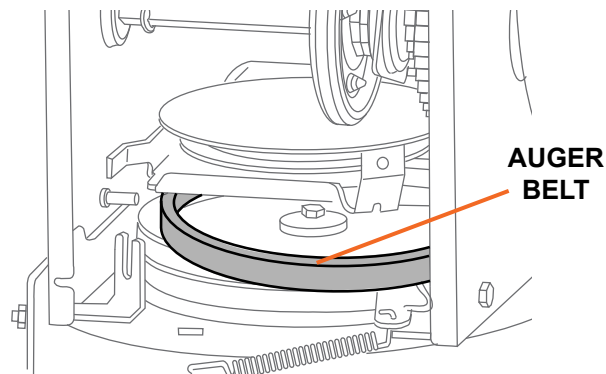

Figure 22
5. Remove the belt from the auger pulley, slip the belt between the support bracket and the auger pulley (see Figure 22).